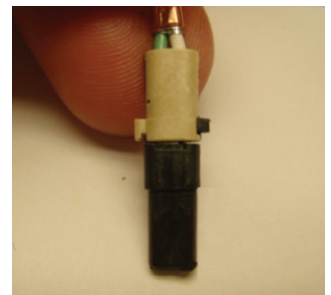

Figure 29: Attaching beige rear insulator
21. Insert the beige rear insulator on the top of the contact on the same pair (Figure 29).